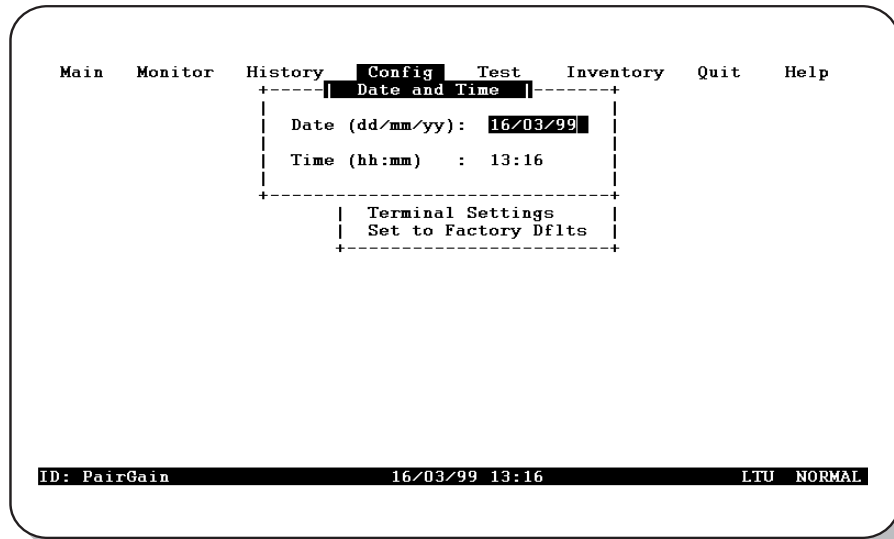

Figure 20. Config Date and Time Menu
- 1 Type **D** at the *Config* drop-down menu to display the *Config Date and Time* menu (Figure 20).